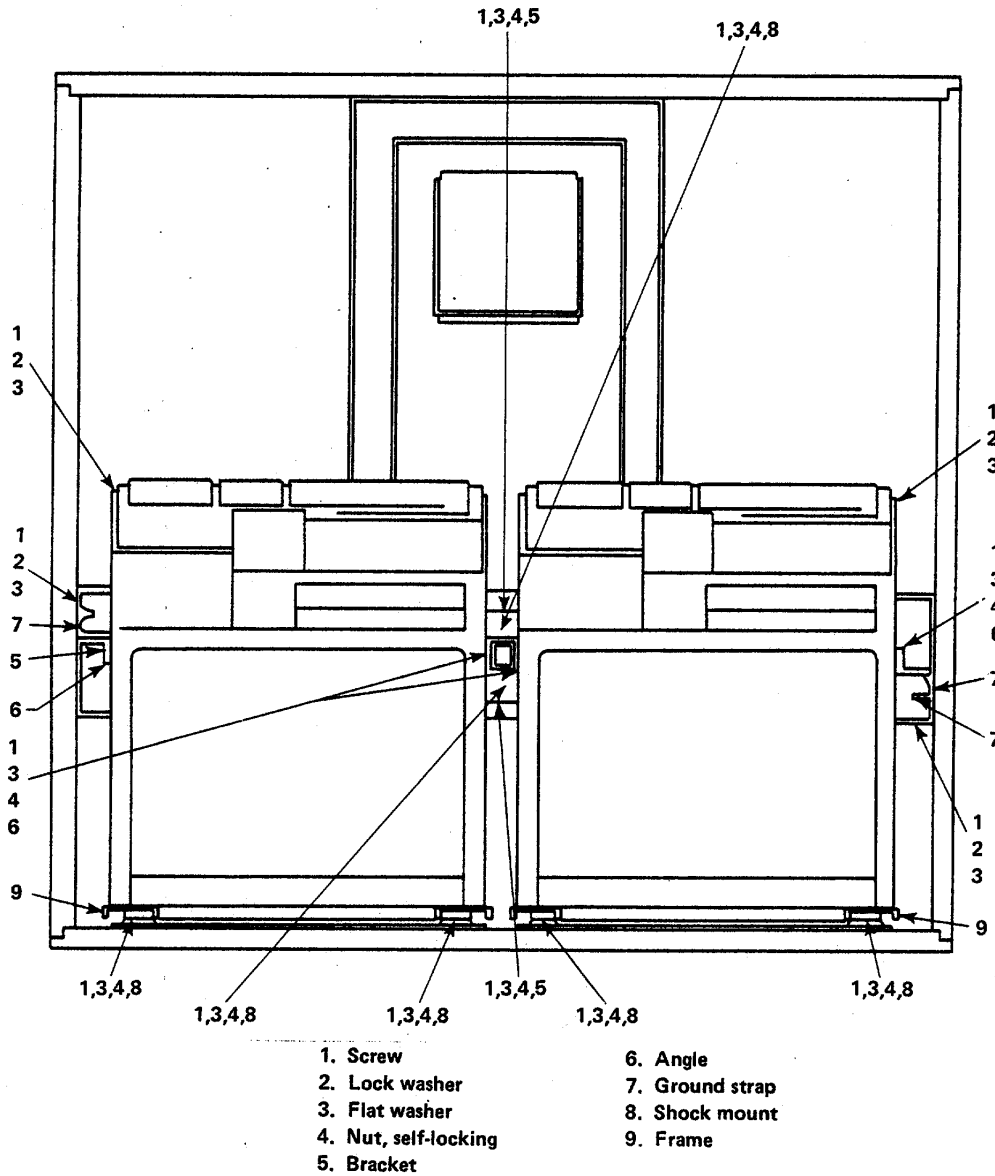

Figure 5-1. AN/UGC-49 Teletypewriter
- d. Remove mounting hardware (figure 5-1).
- b. Install mounting hardware (figure 5-1).